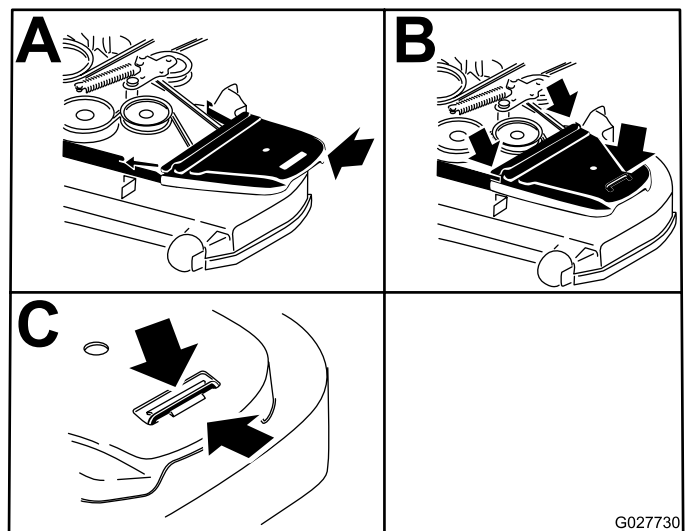

Figure 79
14. Install the belt covers (Figure 79).